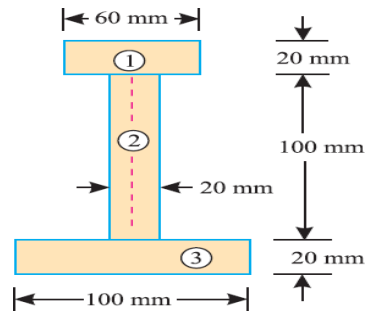

Fig.3
- 6 An I-section is made up of three rectangles as shown in Fig.3. Find the moment of inertia of the section about the horizontal axis passing through the centre of gravity of the section. **12M**